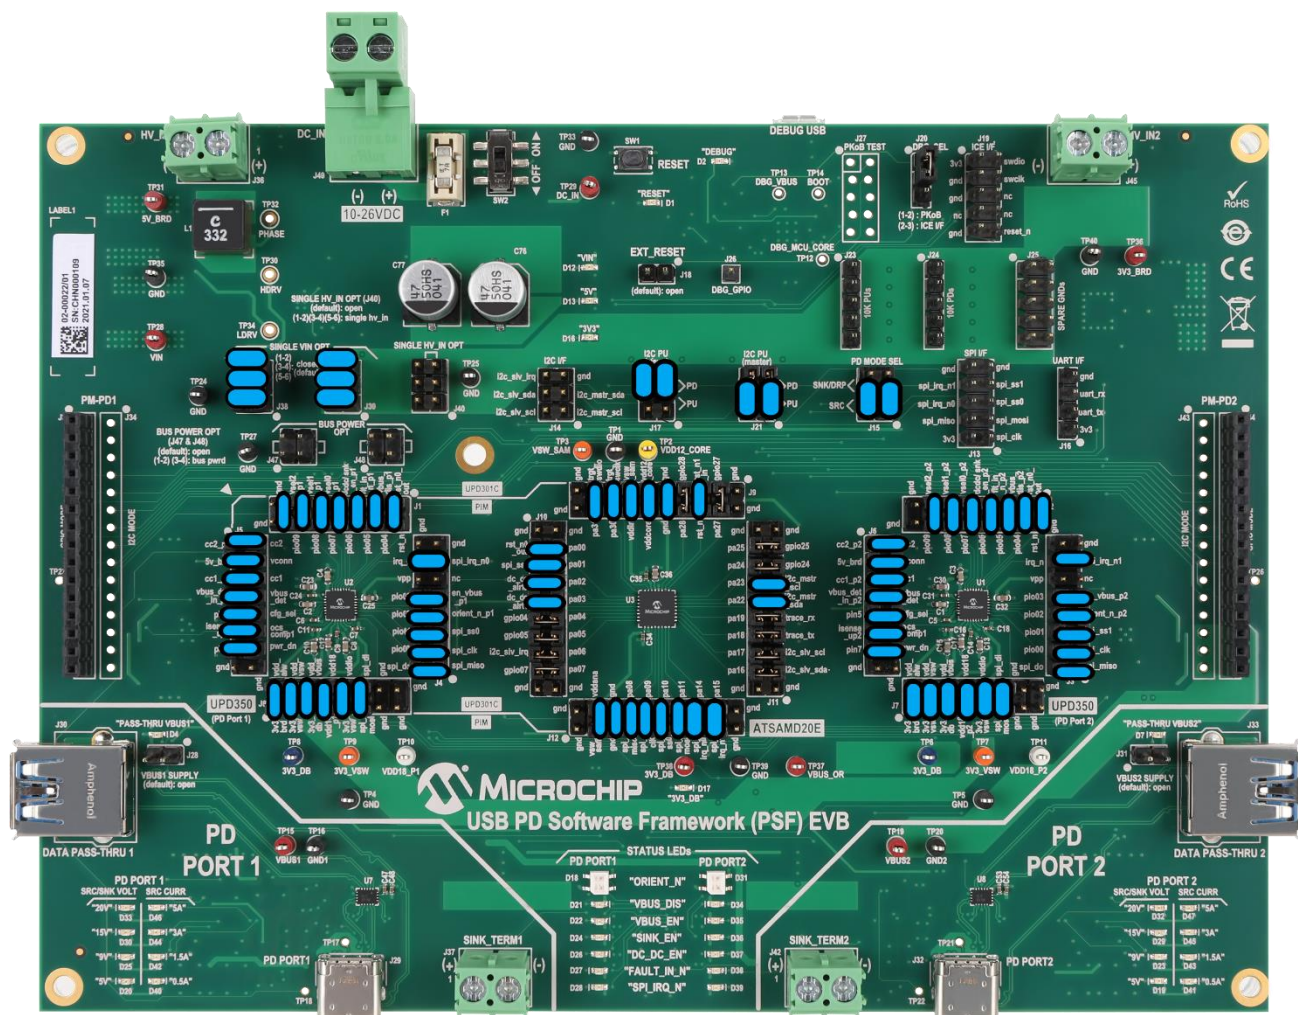

Figure 5.2 EVB-PSF with jumper connections highlighted
2. Ensure the following jumpers are connected in EVB-PSF before proceeding to next step. An image of EVB-PSF with all the required jumper connections highlighted is shown in Figure 5.2